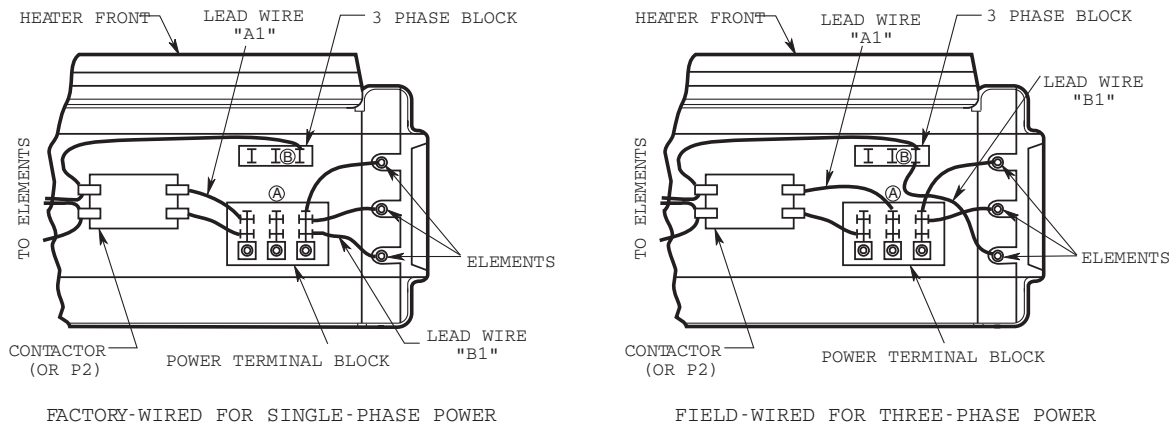

Figure 3a. Wiring Connections for Single-Phase and Three -Phase Power(MUH0521, MUH0581, MUH072, MUH078, MUH102 and MUH108)
- Single or three-phase power connections may be used with heater models MUH0521, MUH0581, MUH072, MUH078, MUH102, MUH108, and MUH158. These units are factory wired for single-phase operation. If these heaters are for use with three-phased power, reconnect the wires as indicated in the wiring diagram attached to the heater. Additional information can be found by looking at the wiring illustrations in Figures 3a and 3b and following the directions shown below.
On models MUH0521, MUH0581, MUH072, MUH078, MUH102, and MUH108 (Figure 3a), move only the two wires marked "A1" and marked "B1"; do not move or change any other wiring. The element lead wire marked "B1" which is factory connected to the power terminal block (terminal located closest to the elements) must be moved to terminal "B" on the three-phase terminal block.